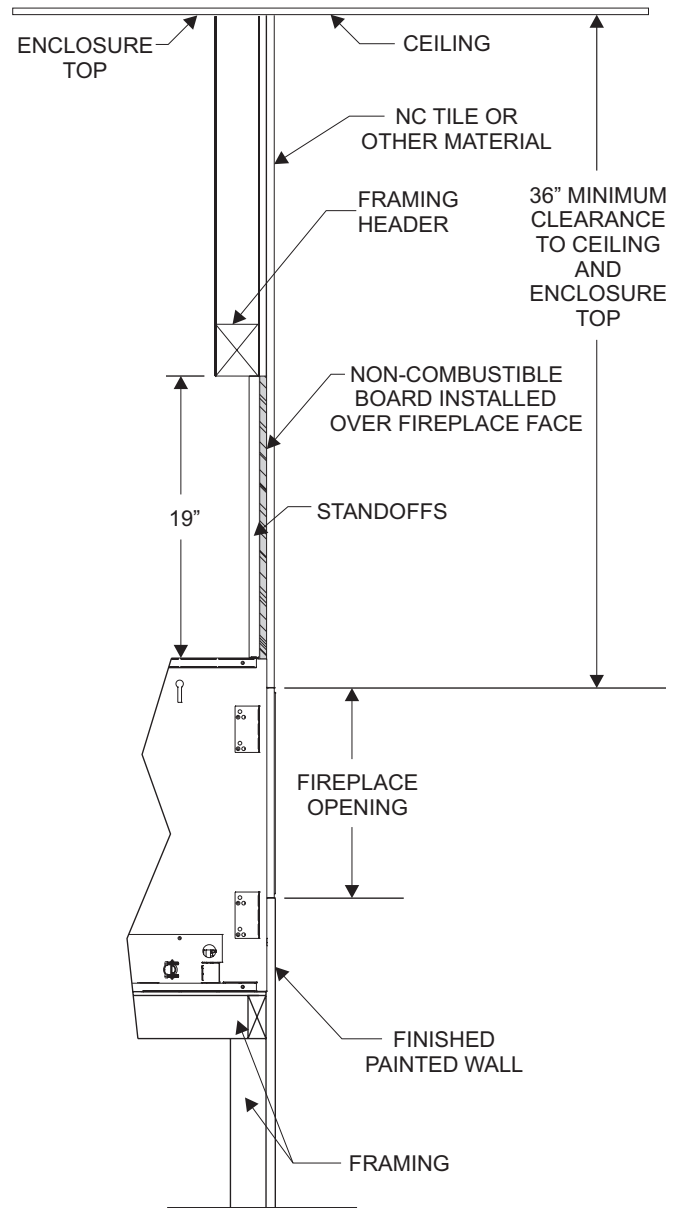

**Figure 46**
- Screws are allowed in framing and top mounting brackets. No screws are allowed into the fireplace face. **See Figure 46.**